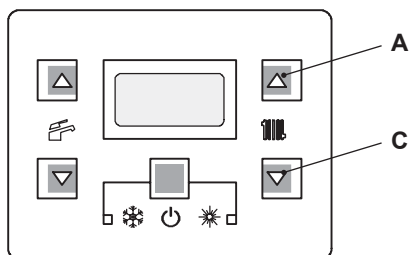

Figure 6.6
- 2 To move through the parameters press C.H. set keys ("A" or "C" Figure 6.6).
- 5 To change the parameters press C.H. set keys ("A" or "C" Figure 6.6).